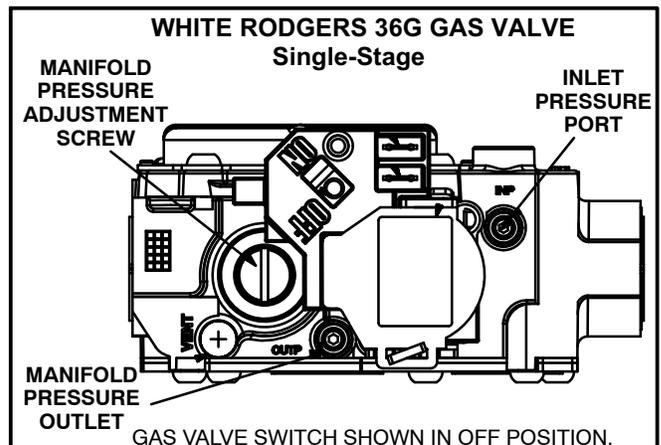
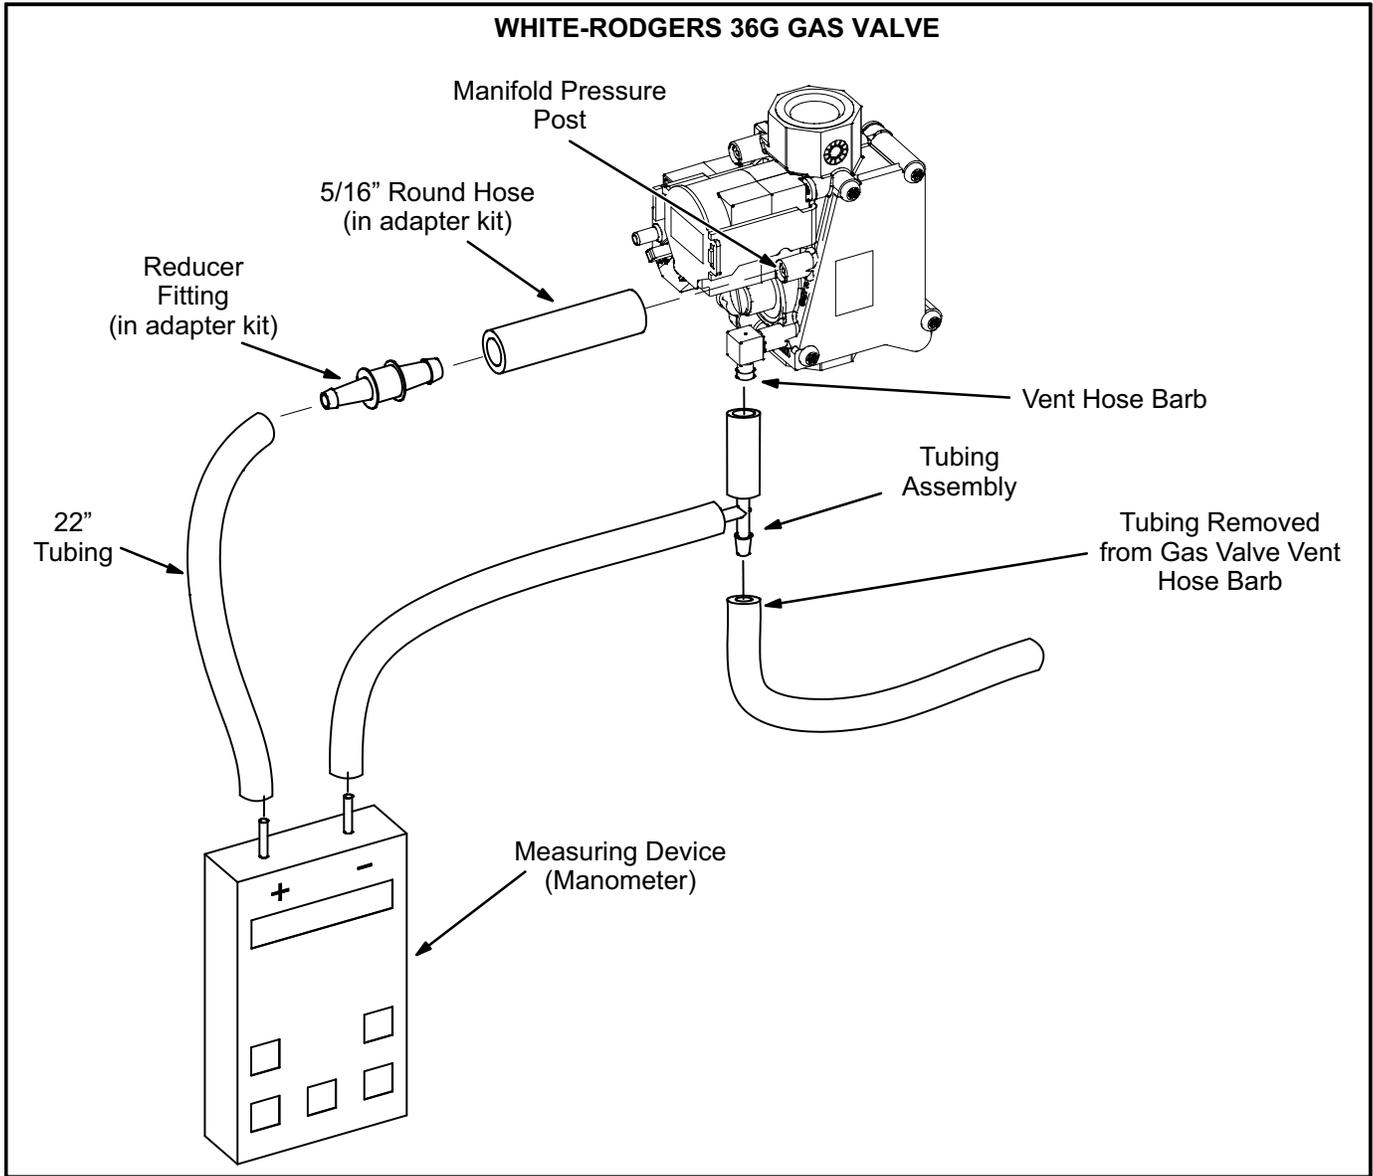

FIGURE 1
FIGURE 2
A manifold pressure post located on the gas valve provides access to the manifold pressure. See figure 1, figure 2, and the following steps.
- 8- If necessary, make adjustments. Figure 1 shows adjustment screw location. Access adjustment screw(s) by removing brass cap screw. Reinstall brass cap screw(s) after adjustments are completed.